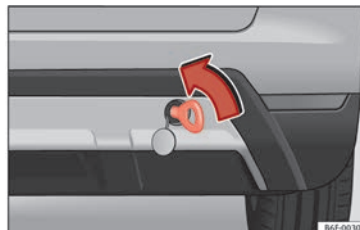

Fig. 108 Right side of the rear bumper: towline anchorage screwed in.
- Screw the towline anchorage into the screw connection as far as it will go » **Fig. 108** and tighten with the wheel brace.